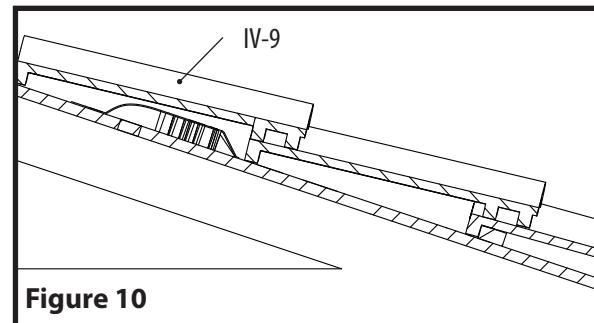

Figure 10
- Install the roof field tiles as you normally would per TRI installation instructions for your area (See Figure 10).